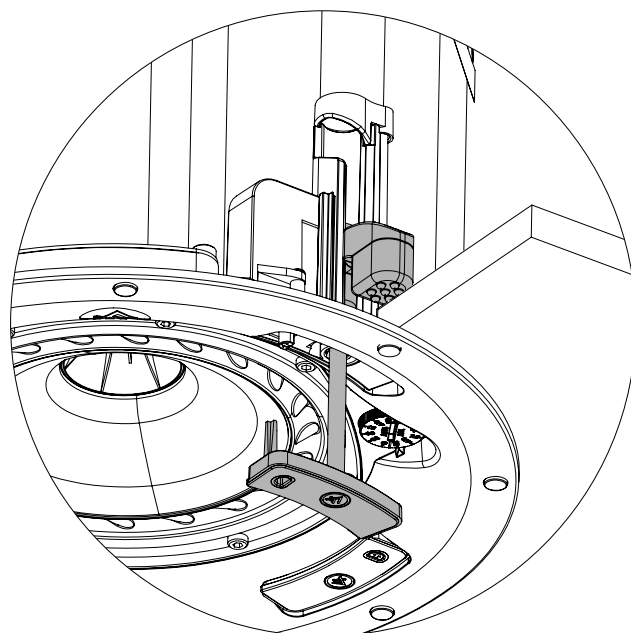

Figure 12
- Pull T-handle down firmly in a smooth continuous motion until the dogleg engages the C-ring and tile (Figure 12). Pull handle tight to lock in place.